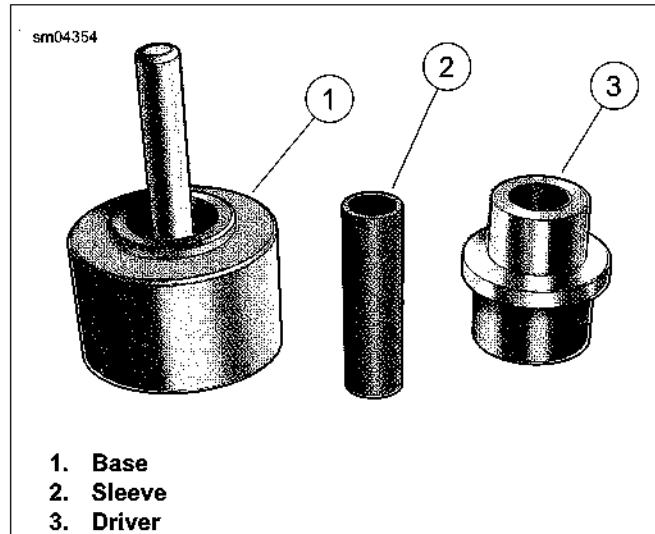

Figure D-2. Rear Wheel Compensator Sprocket Bearing Remover/Installer (Part No. HD-48921)
1. See Figure D-2. Pull sprocket from bowl with the REAR WHEEL COMPENSATOR SPROCKET BEARING REMOVER/INSTALLER (Part No. HD-48921).
1. See Figure D-2. Obtain the REAR WHEEL COMPENSATOR SPROCKET BEARING REMOVER/INSTALLER (Part No. HD-48921).